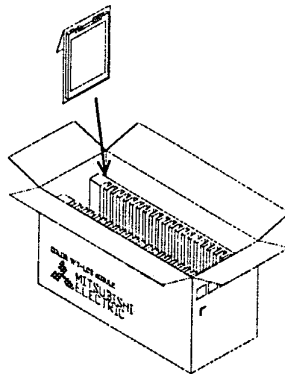

Fig.8
- (2) The packaging box contains 20 modules.(Fig.8)